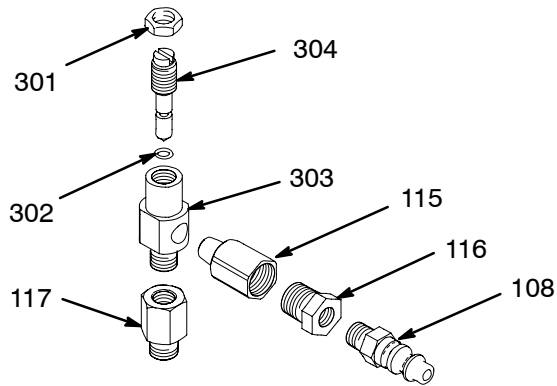

Fig. 2
1. Loosen the locknut (301) of the restrictor valve (114) located at the top of the elevator. Turn the adjusting needle (304) fully clockwise to decrease speed. See Fig. 2.
2. Connect the air line to the elevator pin fitting. Slowly turn the adjusting needle (304) counter-clockwise to raise the pump. When adequate speed is obtained, tighten the locknut (301).